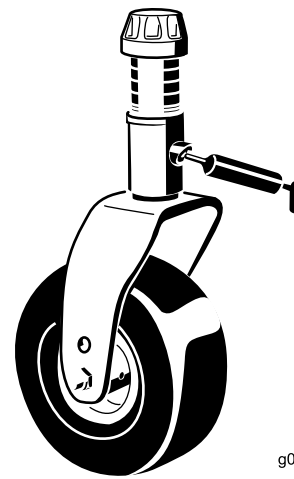

Figure 65
- Castor fork shaft bushing (1) (Figure 65)
- Idler arm pivot bushings (1) (located on the idler arm)